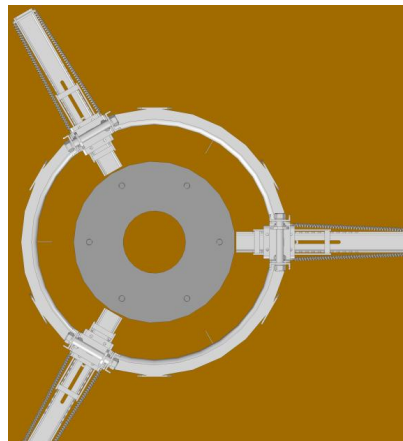

Figure 6
1. Position the lifting carriage for the cameras or luminaires over the previously installed anchor bolt cage, as shown in Figure 6.